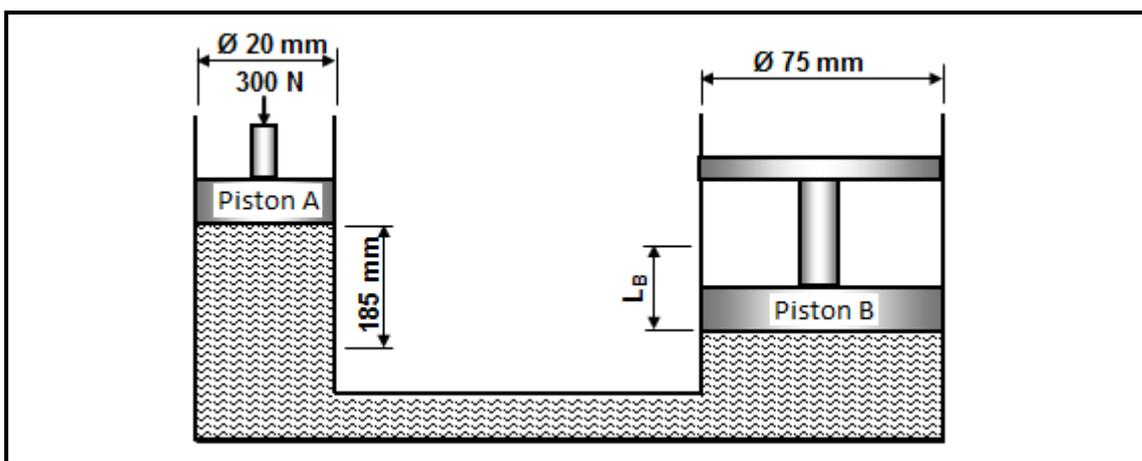

FIGURE 9.3
9.3 A hydraulic system is used to lift a machine. The specifications of the system are presented diagrammatically in FIGURE 9.3 below.